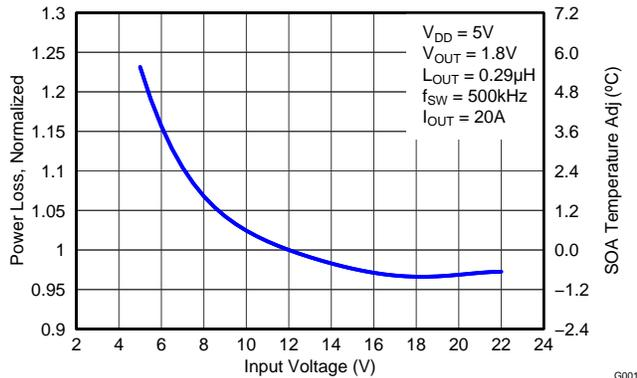

Figure 9. Normalized Power Loss vs Input Voltage
- Normalized Power Loss for input voltage \approx 1.10 (Figure 9)
- SOA adjustment for input voltage \approx 2.5°C (Figure 9)